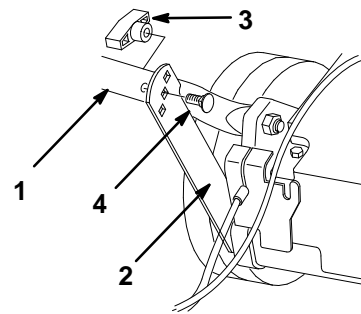

Figure 1
2. Swing the lower handle back and the support brackets up, aligning the brackets with the holes in the handle (Fig. 1).
3. Secure the handle to the support brackets with the two flat handle bolts and two knobs, using the height adjustment holes on the brackets that best suit your height requirements (Fig. 1)